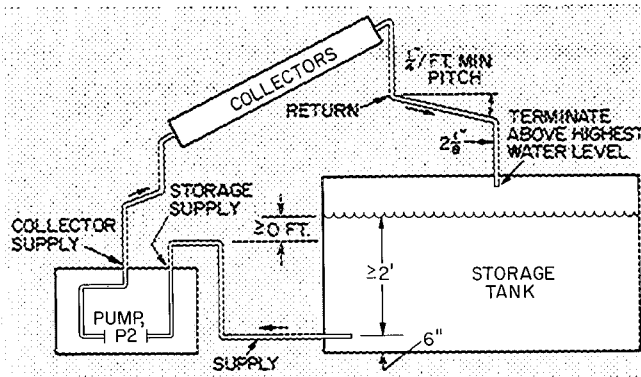

Fig. 13 – Solar Collector Panel(s) Piping Loop on Plain Water System
6. Serviceability – The tank must have an access hole to provide for servicing and maintenance. It must have openings available for placement of sensors (pg 14) and for inlet and outlet piping. The outlet piping must be: minimum 6-in. from bottom of the tank to preclude fouling or sediment; at least 2-ft from top of the tank so that the water pumps will have their required suction head (supplied by the tank's hydraulic pressure). See Fig. 13. There must be provision at the top of the tank for an atmospheric vent.
Collector Loop (Fig. 13) – Begin this loop with a 1-1/8 in. pipe leaving the bottom of the storage tank. The pipe enters the pump package at the "storage supply" (second from right) stub. After passing thru the collector pump, (No. 2), the loop exits the unit at the "collector supply" stub and